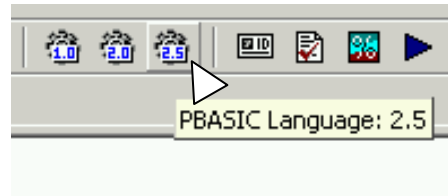

Figure 1-35
- ✓ Next, click on the gear icon labeled “2.5” shown highlighted in Figure 1-35. Its flyover help description is “PBASIC Language: 2.5”.